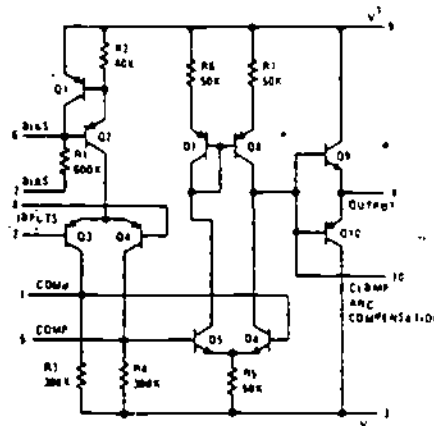

Figure 17
- (1) g. b and e
- (2) inside, outside
- (3) c. (+) for the non-inverting input and (-) for the inverting input; both (+) and (-) are located inside the circuit symbol.
17. Each type of IC will have its own data sheet. Sometimes the data sheet is simply a schematic diagram with the pins shown as terminals and labeled as to their function (see Figure 17).